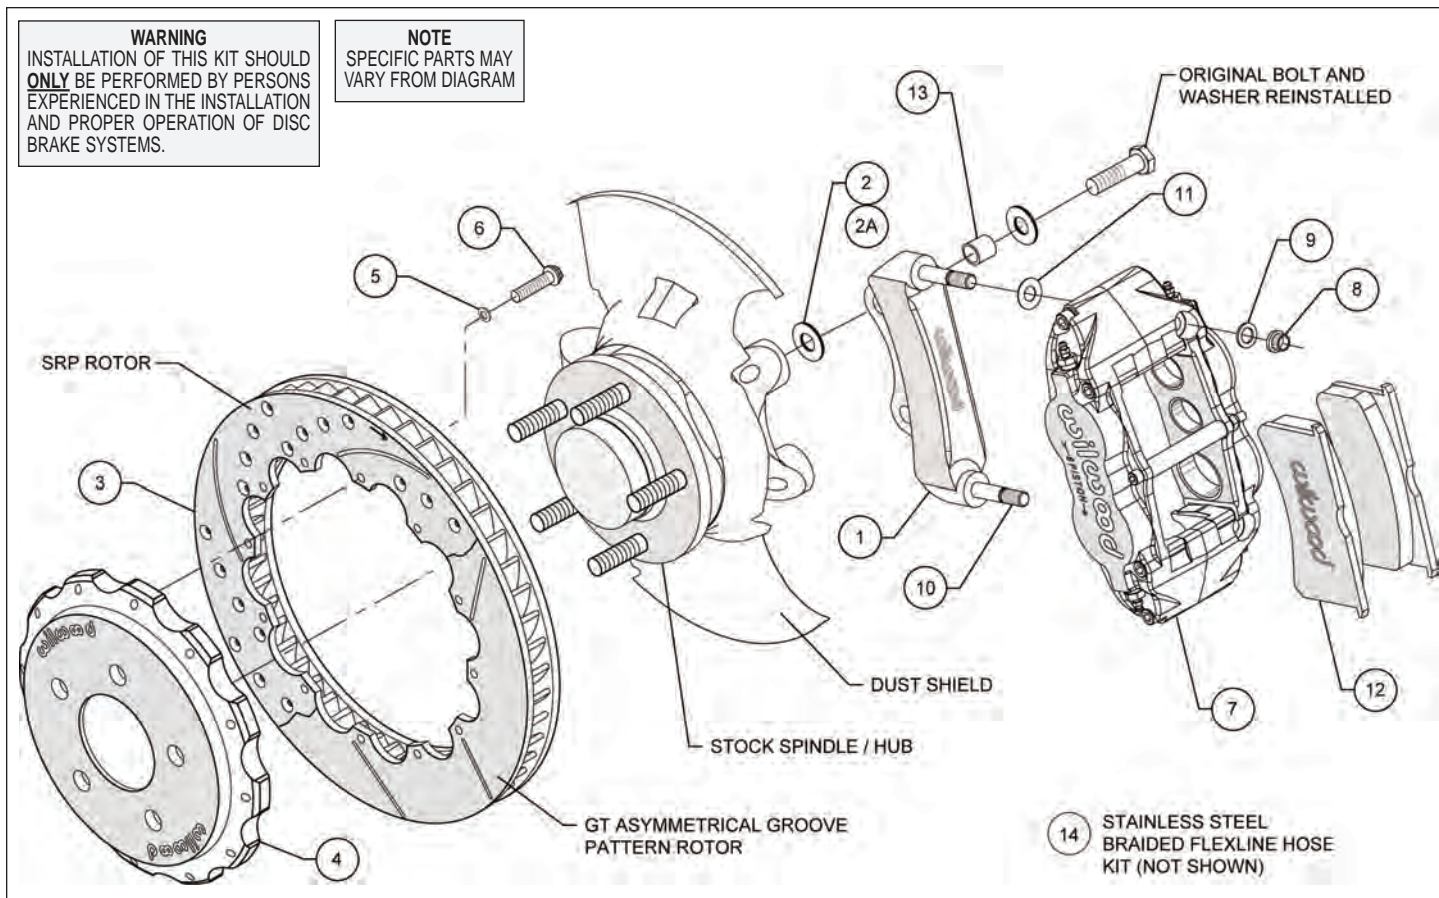

Figure 1. Typical Installation Configuration
- The caliper mounting bracket assembly (1) should be installed first with clean, dry threads on the mounting bolts. Install the bracket from the rear side of the spindle by sliding the original stock bolts through washer, sleeve (13) (sleeve only utilized on 2004 model year), and bracket (1). Place shim washer (2 or 2A for 2004 model year) between the bracket (1) and the spindle (see Figure 1). The bracket must tighten squarely against the side of the spindle body. Inspect for interference from casting irregularities, machining ridges, burrs, etc. Use one thin shim (2 or 2A) between the bracket (1) and spindle during initial trial fitting.
- NOTE:** This kit contains distinct right and left hand calipers that must be mounted in a specific direction, as described below. Lubricate the caliper mounting studs (10) with lightweight oil. Initially place one .035" thick shim (11) on each stud as shown in Figure 1. Mount the caliper (7) onto the bracket (1) using lock nuts (8) and washers (9), Figure 1. Ensure that the caliper is mounted so that the largest pistons are at the rotor exit end of the caliper, in relation to the direction of rotor rotation. Temporarily tighten the lock nuts and view the rotor through the top opening of the caliper. The rotor should be centered in the caliper. If not, adjust by adding or subtracting shims (2 and/or 2A) between the bracket and the upright. Always use the same amount of shims on each of the two mounting bolts. Once the caliper alignment is correct, remove the bracket mounting bolts one at a time, apply red *Loctite*® 271 to the threads, and torque to manufacturer's specifications.
- Remove the caliper center bridge pad retainer bolt, nut, and tube from the caliper. Slide the brake pads (12) into place. They should install easily without interference. Check that the outside radius of the brake pad is aligned with the outside diameter radius of the rotor face. Add or subtract shims (11) between the caliper and mount bracket to gain the proper alignment. Reinstall the center bridge pad retainer tube, bolt, and locknut. The locknut should be snug without play in the bolt or tube. Be cautious not to over tighten.
- Once all clearances have been checked, remove the wheel, caliper, hat, and rotor from the spindle and hub. Secure the caliper mounting bracket (1) to the spindle with original stock bolt using red *Loctite*® 271. Torque the bolts to manufacturers specifications. Reinstall the hat and rotor assembly and again use lug nuts to hold it in place. Lubricate caliper mounting studs and nuts with lightweight oil, reinstall the caliper, torque the caliper nuts (12) to 30 ft-lb.
- NOTE:** OEM rubber brake hoses generally cannot be adapted to Wilwood calipers. The caliper inlet fitting is a 1/8-27 NPT. Install Wilwood hose kit included in this kit (14), P/N 220-14177, which includes hoses, fittings, etc., all in one package for this application, Photo 1. Minor repositioning of the hard line is required to align it with the new fitting location. **Carefully route lines to prevent contact with moving suspension, brake or wheel components.** Wilwood hose kits are designed for use in many different vehicle applications and it is the installer's responsibility to properly route and ensure adequate clearance and retention for brake hose components.